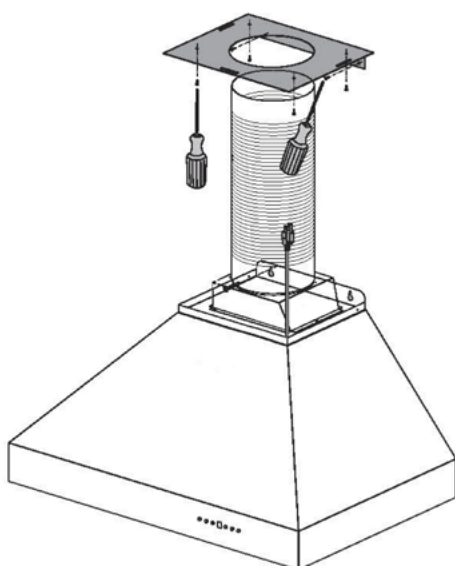

Figure 7
9. Secure the crown molding bracket to the ceiling directly above the range hood by using the hardware provided with the crown molding. *Figure 7*